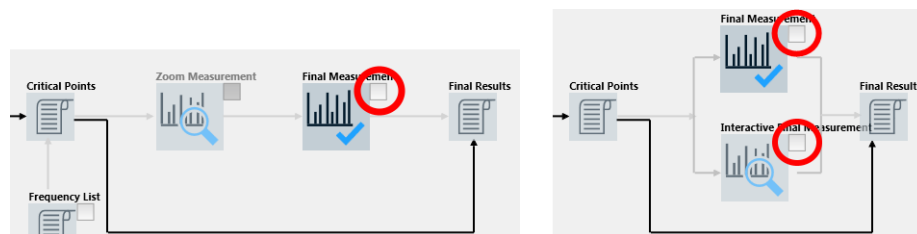

Figure 4-60: Skipping the final measurements uses the critical points as final result
To let the software do so, disable the "Final Measurements" checkbox as in Figure 4-60.
However, you can apply a "skip" mode and use the critical points results as final results. To apply this mode, disable the checkbox as in Figure 4-60.
- The left-hand screenshot in Figure 4-60 shows the case with activated "ELEMI-S" license.